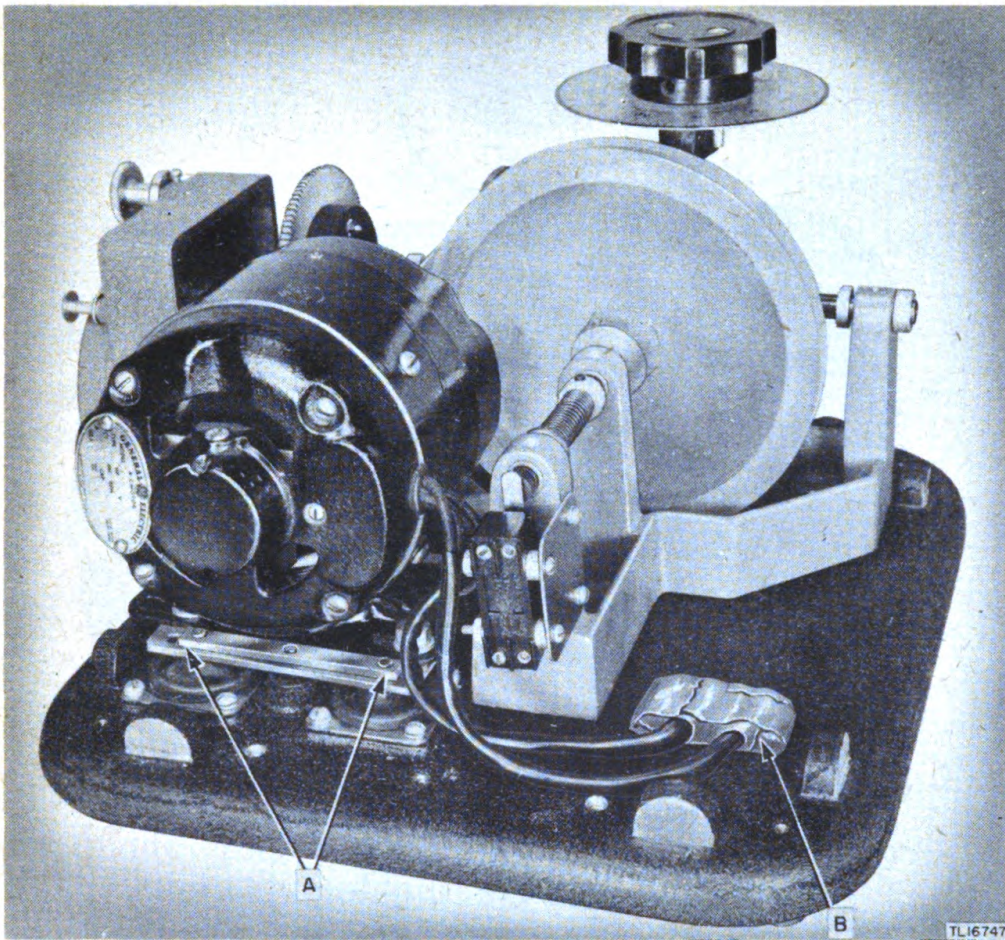

Figure 18. Auto head and drive unit prepared for moistureproofing and fungiproofing, rear view.
- (d) Mask contacts on terminal strip (fig. 18(b)).
(c) Avoid getting varnish on the rubber shock mountings (fig. 18(a)).